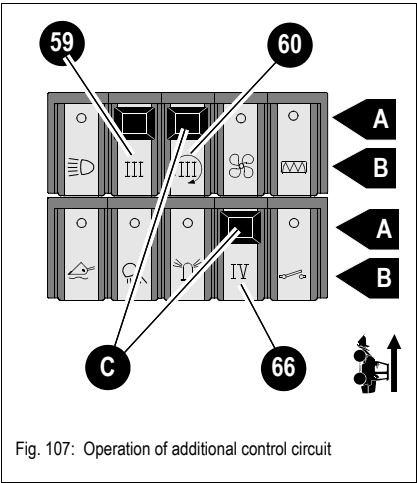

Fig. 107: Operation of additional control circuit
Possibility of unexpected machine movement. Pressing tip switch (fig. 107) 50 or 88 on control lever 11 unlocks the quickhitch.
- Press switch **59** (fig. 107) to position **A** to lock.
- ☞ Switch on the additional control circuit with switch 60/66, see fig. 107